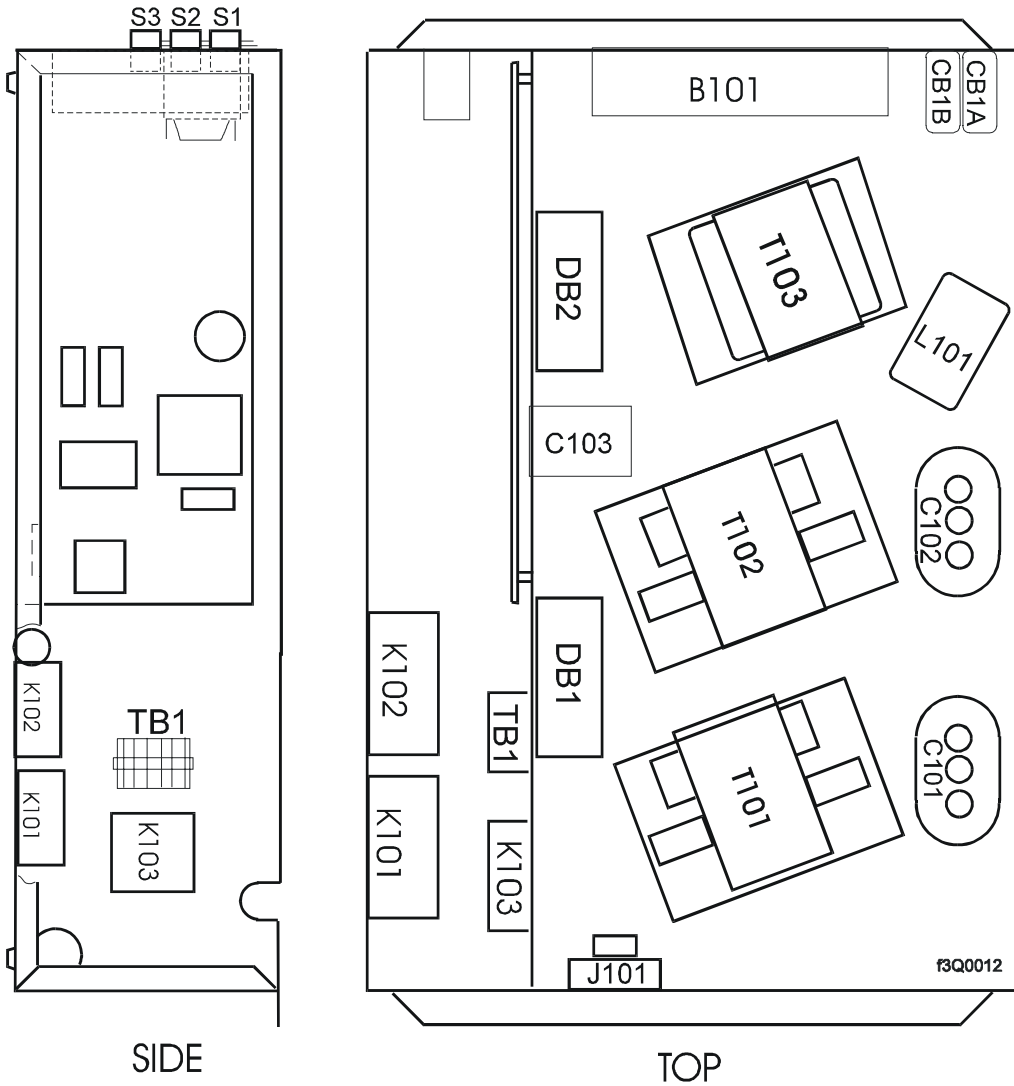

Figure 44. P300M/P300MQ Component Identification
3. To install a replacement card, reverse this procedure. Note the location of connectors in Figure 44 on page 109 and reinstall as shown.